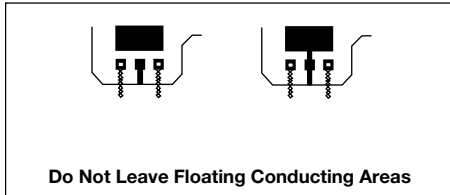

Fig. 6
- Do not leave floating conductor areas, as they act as EMI radiators; if possible connect to ground plane (often, these sections are placed for thermal dissipation, so polarity should not be a consideration, but verify with component data sheet). (Fig. 6)